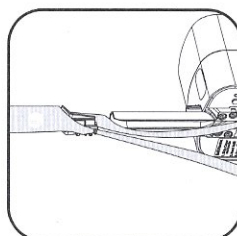

Figure 5
6. Place Plastic Handle with already installed sleeve above the end of Metal Handle. (Fig. 5)